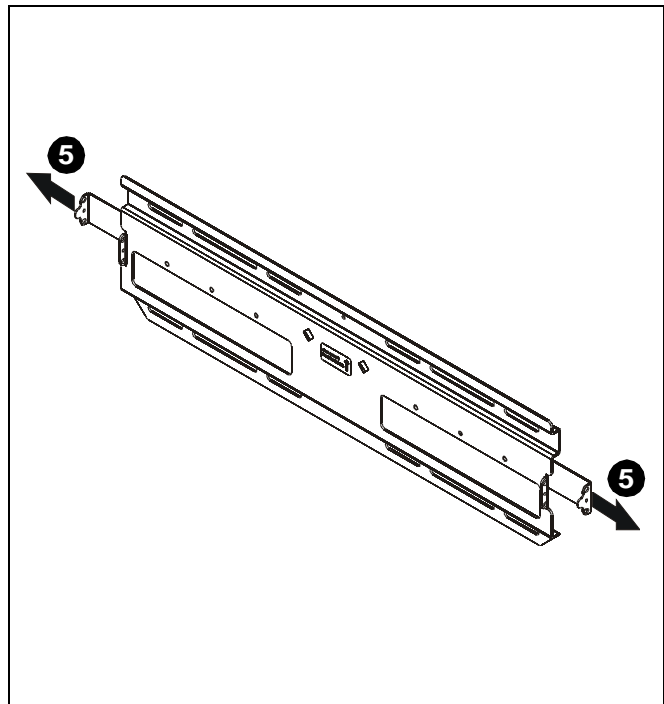

**Figure 2**
4. Using four 5/16 x 2 1/2" lag bolts (D) and four 5/16" washers (E), install the wall plate on the wall. (See Figure 1) and (See Figure 2)